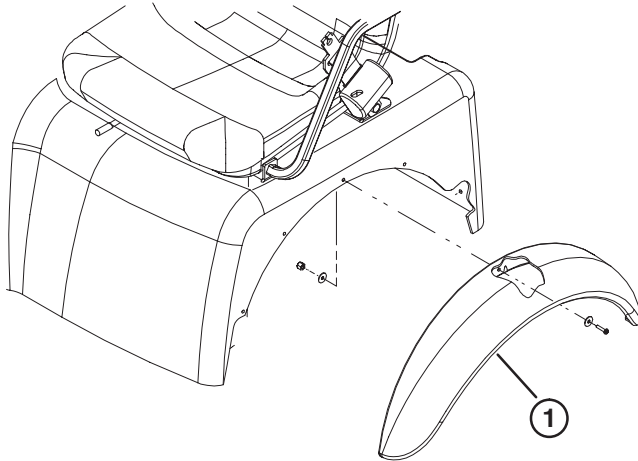

Figure 5
1. Align the five fender mounting holes with the holes in each side of body (Fig. 5).
2. Mount a fender to each side of body with (5) #10 x 3/4 in. socket head capscrews, (10) flat washers and (5) #10 locknuts. Position a washer next to capscrew head and locknut.